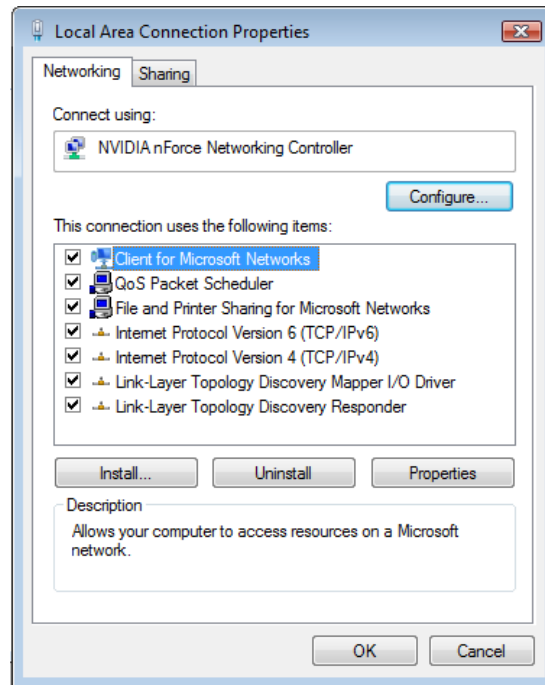

Fig. 5: Selecting the Internet Protocol
4. Right-click **Local Area Connection** and then click **Properties** from the drop-down menu (**Figure 5**).